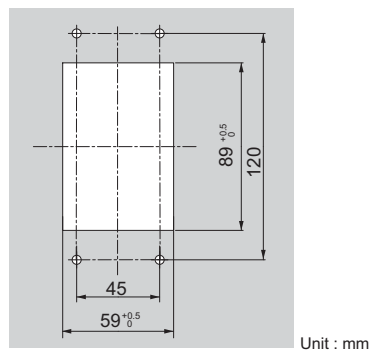

Figure 2.14 Panel Cut-Out Dimensions (Internal/Flush-Mount Installation)
1. Cut an opening in the enclosure panel for the digital operator as shown in Figure 2.14.